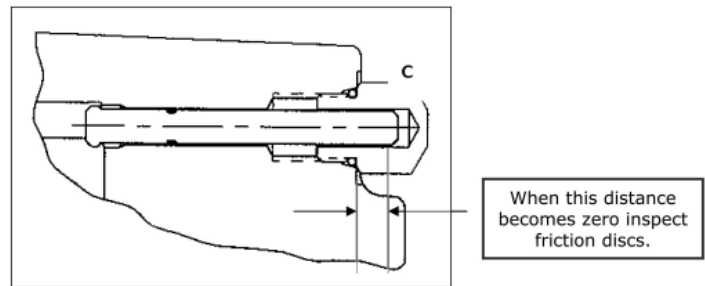

Fig. 6-3 Wet Disk Brake Test
4. Inspect discs when wear pin becomes flush with the spotface. See Fig 6-3.